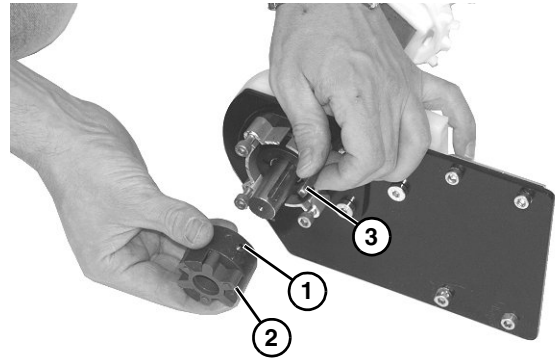

Figure 32
4. Loosen set screw (**Figure 32, item 1**) and remove coupling (**Figure 32, item 2**).
5. Remove key (**Figure 32, item 3**).